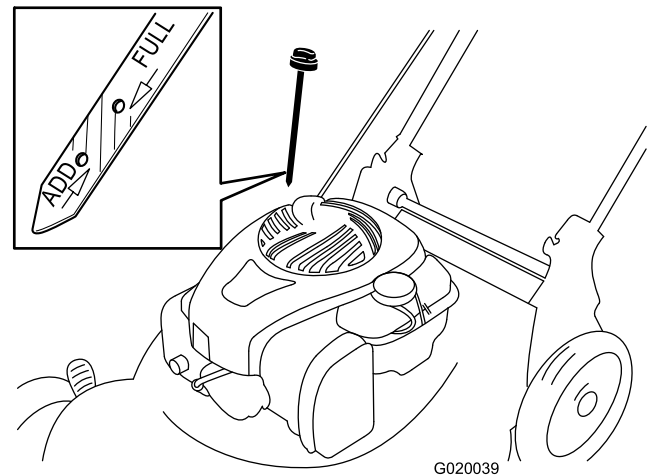

**Figure 18**
2. Tip the machine onto its side, with the dipstick down, then remove the dipstick to drain the used oil out through the oil-fill tube (Figure 18).